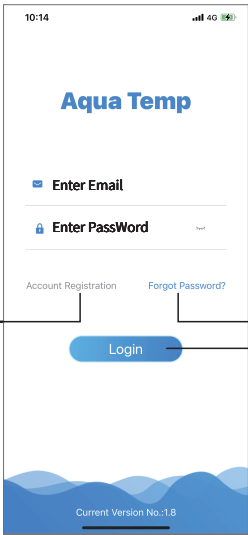
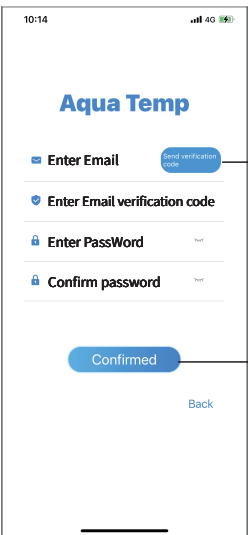

Fig.1 Login interface
Fig.3 Forgot Password interface
1. Account Registration: To register an account, click ① (Fig.1) to jump to the Account Registration interface, fill in the relevant information and click ② to receive verification code, while completed the application information, click ③ to read the details of the Privacy Policy, then click ④ to agree, and click ⑤, registration is done.
2. Log in: Follow the instructions on the page(Fig.1), enter your registered email address and password, click ⑥ and jump to device list;
3. Forgot Password: While forget your password, click ⑦ (Fig.1), jump to the Forgot Password interface(Fig.3). Follow the instructions on the page, fill in the relevant informations, click ⑧ to receive verification code from your mailbox, click ⑨ to confirm and password reset is done.